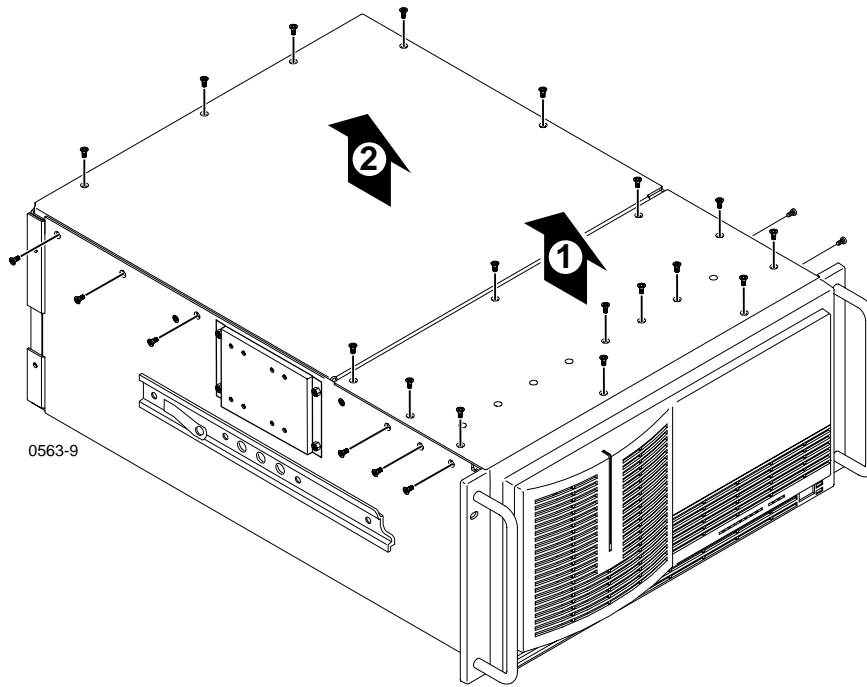

Figure 5. Removing the Top Covers
2. Use the Torx tool with the T10 tip to remove the top screws from the front chassis cover (❶ in Figure 5) and then use the T15 tip to remove the pan-headed screws from the side of the chassis. The front chassis cover must be removed first because it overlaps the rear chassis cover.
3. Use the Torx tool with the T10 tip to remove the rear chassis cover (❷ in Figure 5) which covers the circuit boards.